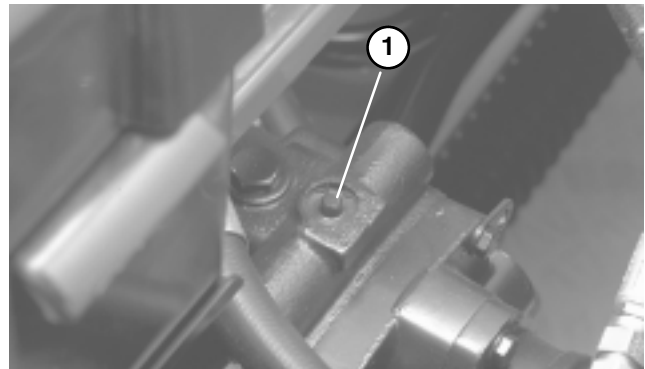

Figure 28
1. The bypass valve is located on top of variable displacement pump (Fig. 28). Rotate the valve 90°, in either direction, to open and allow oil to bypass internally. Because fluid is bypassed, the machine can be moved slowly without damaging the transmission.